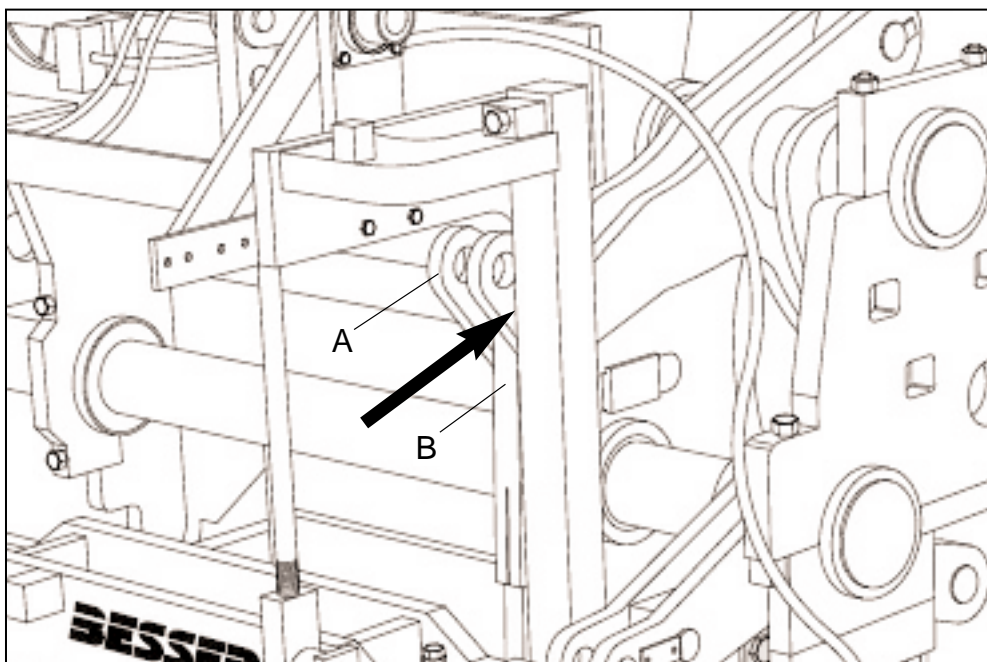

Figure 4.2 STRIPPER HEAD SHAFT AND LINKS.
- b. Stripper head shaft (A) - position pins in inside holes (short stroke) (see figure 4.2).
- c. Stripper head links (B) - position pins in top holes (see figure 4.2). Adjust links to obtain approximately **7 3/4" [197mm]** between link ends.